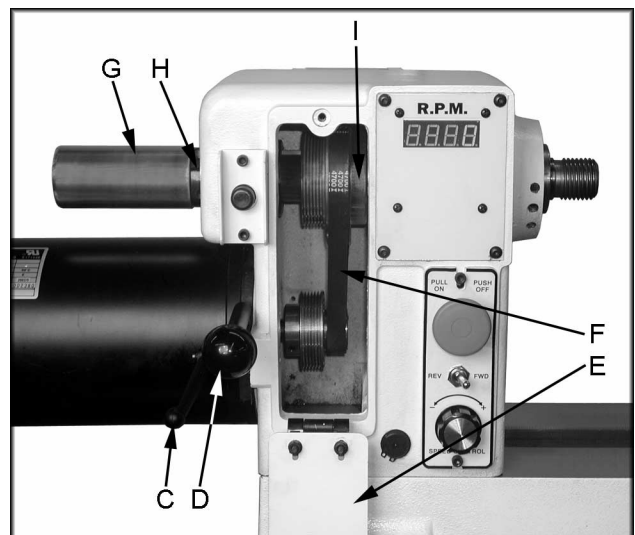

Fig. 25
2. Loosen the locking handle (C, Fig. 25), and lift up on the tensioning handle (D, Fig. 25) to remove tension from the poly v-belt.
3. Open the door (E, Fig. 25), and remove the belt (F, Fig. 25) from the lower pulley.
4. Loosen the two setscrews in the handwheel (G, Fig. 25) and remove.
5. Loosen the socket head cap screw enough to unthread the clamping nut (H, Fig. 25).
6. Loosen the two setscrews in the right hand pulley (I, Fig. 25).